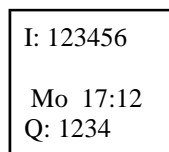

Fig. 6b
2. Carefully examine the LCD display. The top line displays the inputs, the center line shows the day of the week and the time of day, and the lower line reflects the output and run status (Fig. 6b).